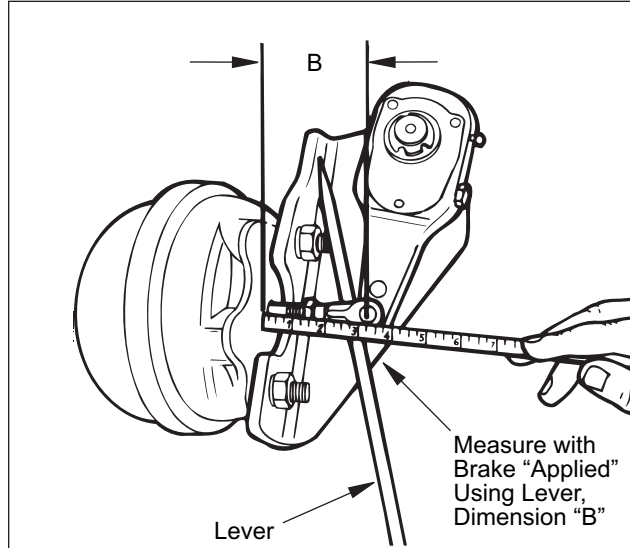

Figure 10. Measurement, Brake Applied
5. Take "A" dimension exactly as before. Take "B" measurement using a lever to move brake adjuster as shown until the shoes contact drum. Refer to Figure 10. The result of "B" - "A" is brake free stroke. Adjust free stroke to within range specified in Table 3.